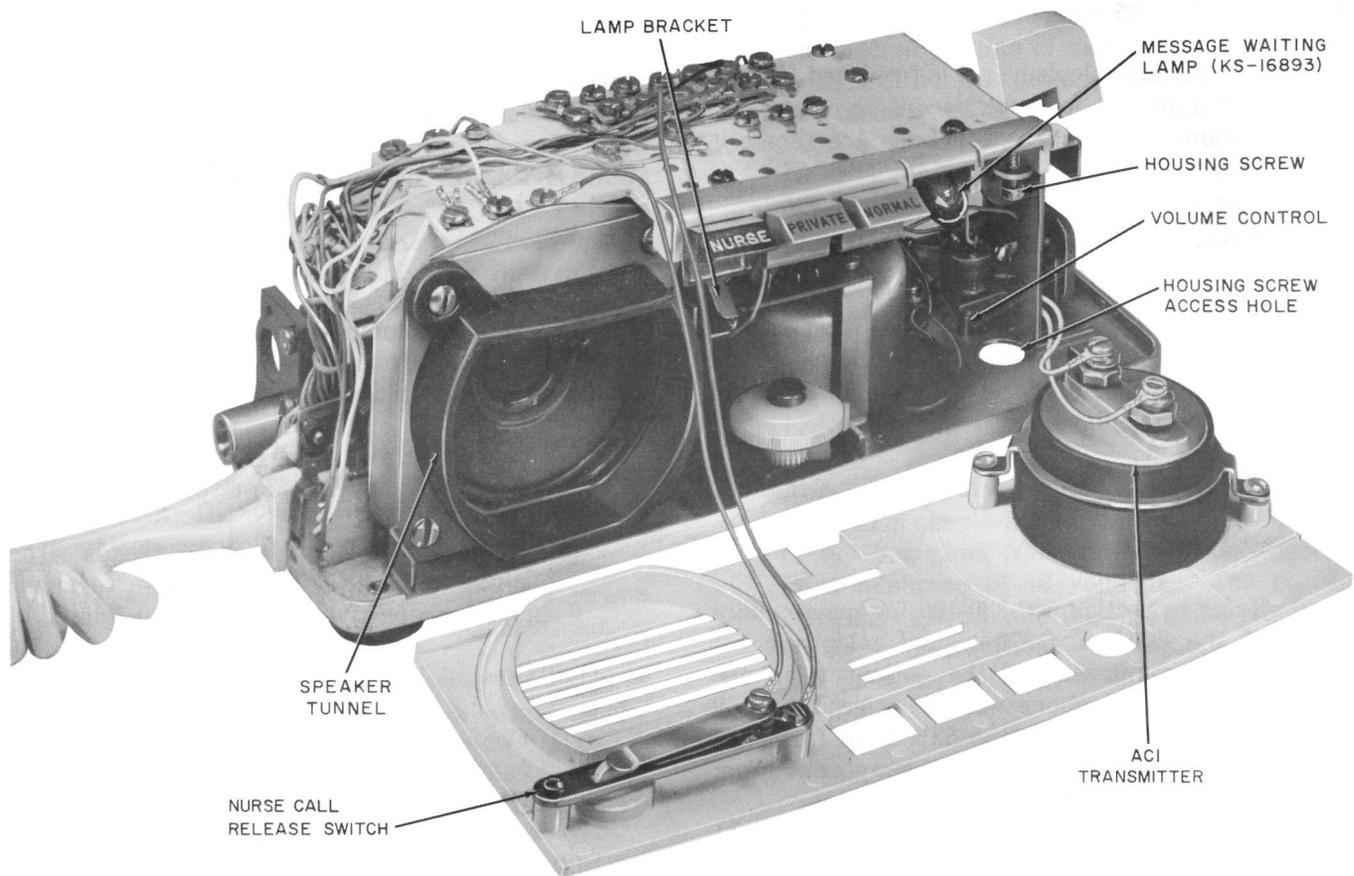

Fig. 2—Patient Telephone Set Base (AE2), Interior View
- (1) Loosen two captive screws through access holes in bottom of the base and lift off housing.
- (2) Tilt top of faceplate forward to clear ringer volume wheel and speaker tunnel (Fig. 2). Lift faceplate from base to gain access to AC1 transmitter unit terminals.
- (3) Loosen screws on rear of AC1 transmitter unit to remove spade-tipped leads.
- (4) Remove (V-BL) and (W-BR) leads (from nurse call release switch) from terminals 6 and 22, respectively, of terminal board.